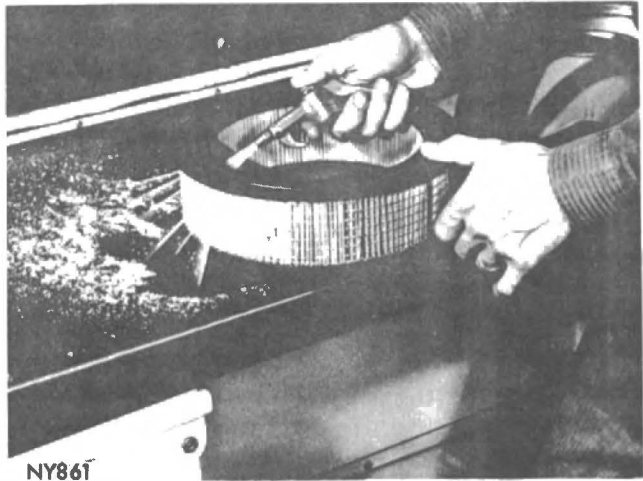

Fig. 4 - Cleaning air filter.
(1) Remove the air cleaner assembly from the carburettor and remove cover and filter element.
(2) Clean the housing and cover with compressed air.
(3) Using compressed air, gently clean paper element by holding air nozzle at least two inches from the inside screen (Fig. 4).